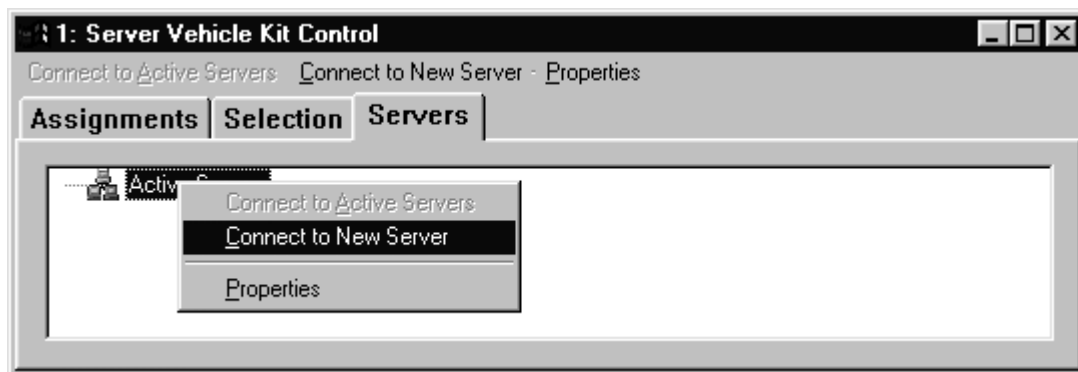

Figure 9-7 Server Vehicle Kit Control – Connect to Server
- (2) Right click on local server. Click on delete. The user will be asked to confirm whether or not the user really wants to delete the server. Click on yes.
- (3) To connect a new server, right click on the **Active Server** icon (see Figure 9-7).
- (4) Select the **Connect to Server** option (see Figure 9-7)